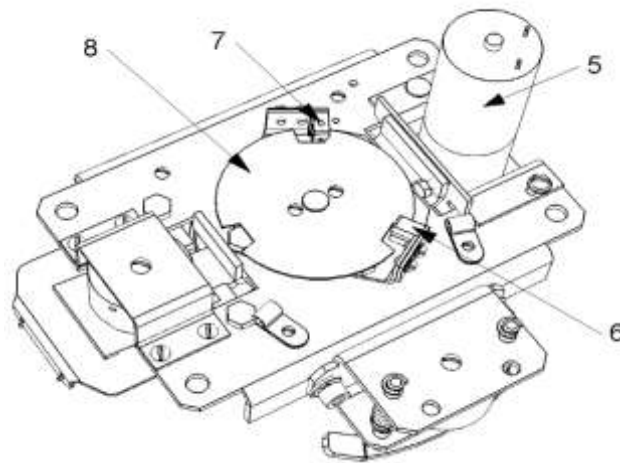

Fig.2b. Servomechanism— plan view
After turning the arm of the tripod on 20° the electric motor (5) (fig. 2b) is starting, after turning the mechanism on 80° the electromagnet is disabled and return spring (6) takes the lock (4) back to the initial position. (fig.4)